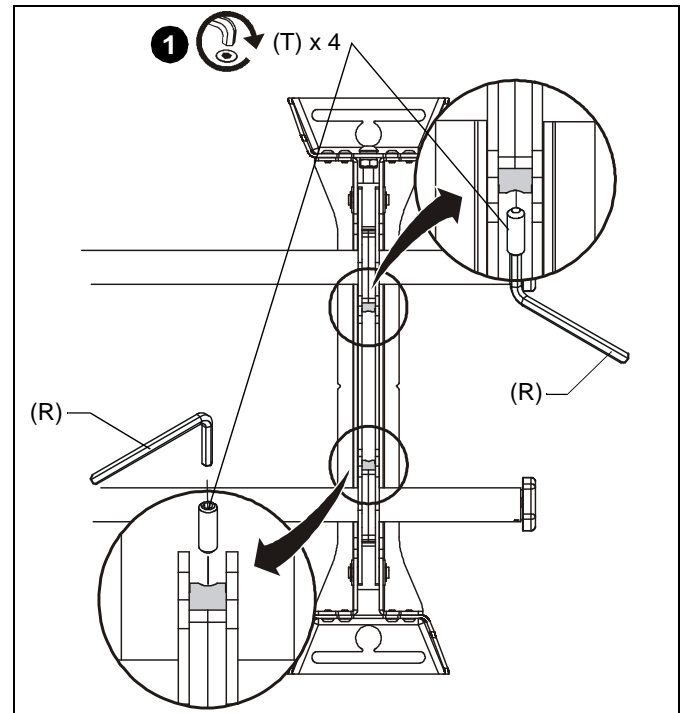

Figure 4
1. Lock rails into place using two 1/4-20 x 3/4" set screws (T) on mount upright (CC) and the 1/8" hex key (R). (See Figure 4)